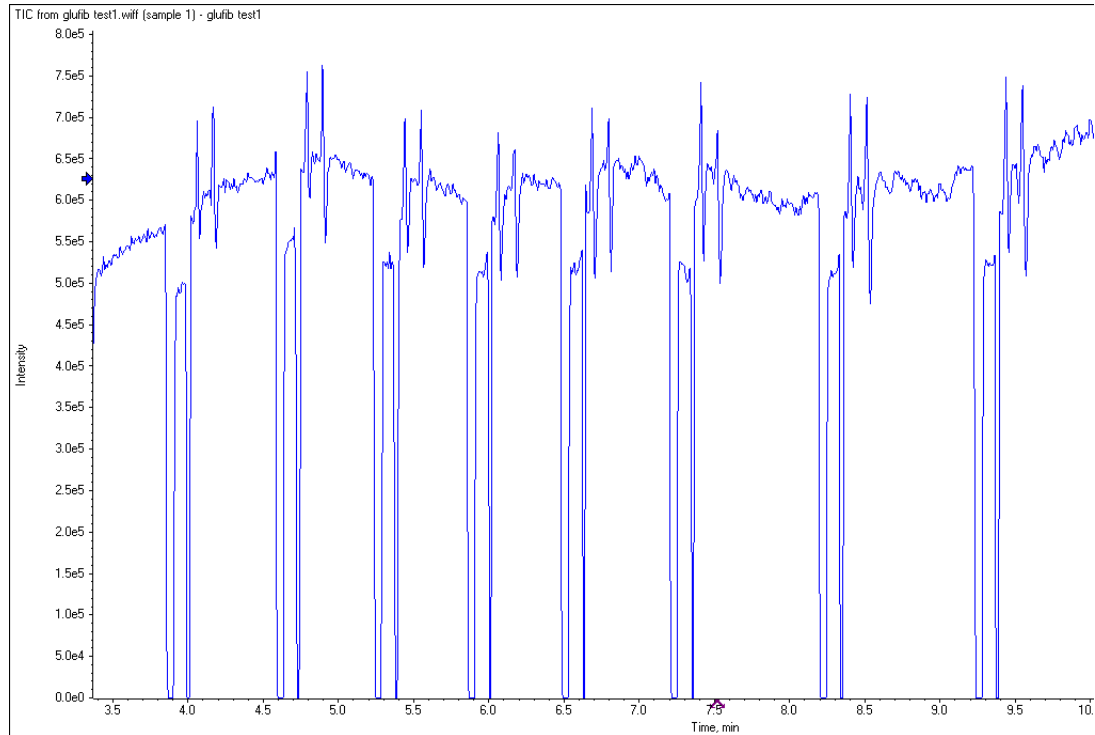

Figure 1-23 Unstable spray induced by air bubbles
- Unstable spray appears as shown in Figure 1-23 (typical unstable spray induced by air bubbles).